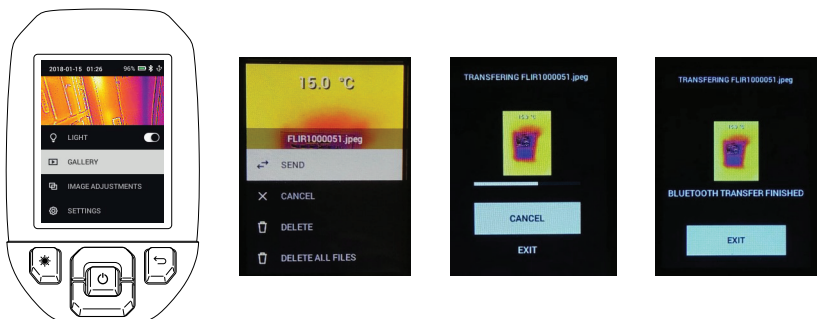

Figure 7.2 Sending Images to a Mobile Device
1. Open the camera's Image Gallery from the main menu and scroll to an image using the arrow keys. See Figures 7.2 and 7.3, below, for illustrations supporting this section.